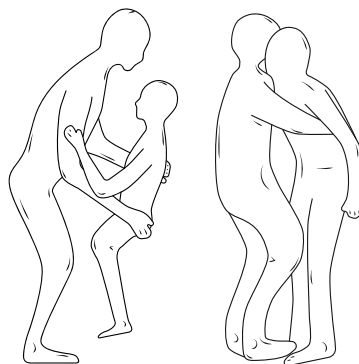

Fig. 1 Ways to sustain the user
- place the user in the device (Fig.1),
- pull the user out of the product (Fig.1).